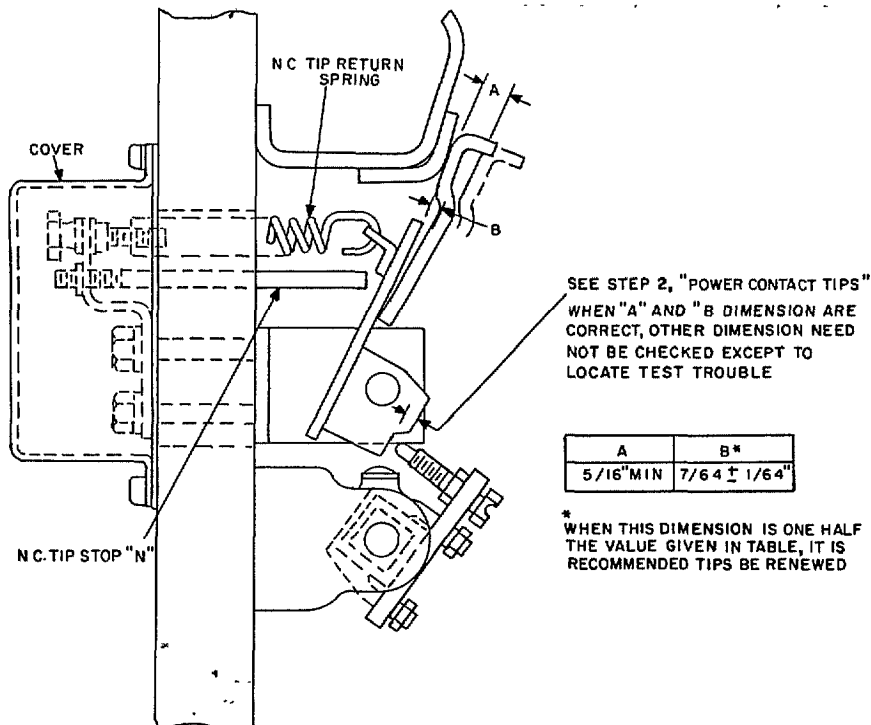

Figure 4. Contact tip and wipe data – normally closed tips.
2. Adjust the N.C. tip gaps and wiper as shown in Figure 4. With the contactor de-energized, adjust stop "N" to obtain N.C. tip wiper (B). Adjust the return spring of the normally closed pole to zero turns (point where tension will start to be applied to spring) then tighten the adjusting nut two full turns. Due to spring tolerances, it may be necessary to increase the
Adjust screw that operates N.C. tips so that when N.O. tips touch the N.C. tips will have 1/32 to 1/16 inch gap. The minimum gap shown in Figure 4 must be maintained when the contactor is fully energized.
Adjust the screw that operates the N.C. tips to give "B" wipe (Figure 4) 3/64 inch to 5/64 inch with N.O. tips just touching.